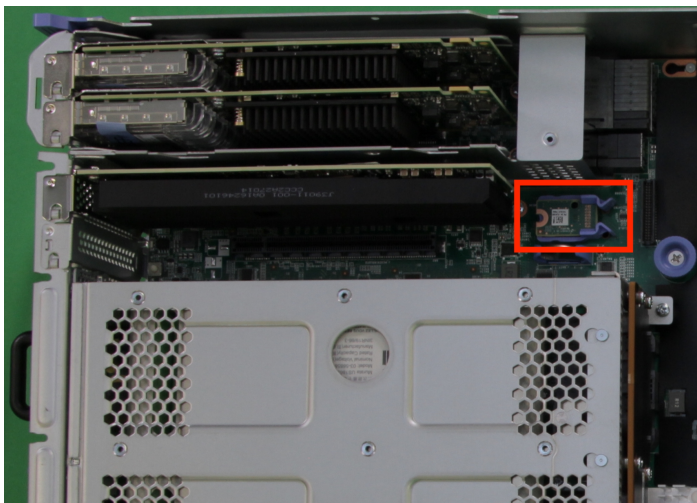

Figure 99. Locating the TPM
9. Locate the TPM, which is between the boot drive and CMOS battery, as shown in Figure 99 on page 160.